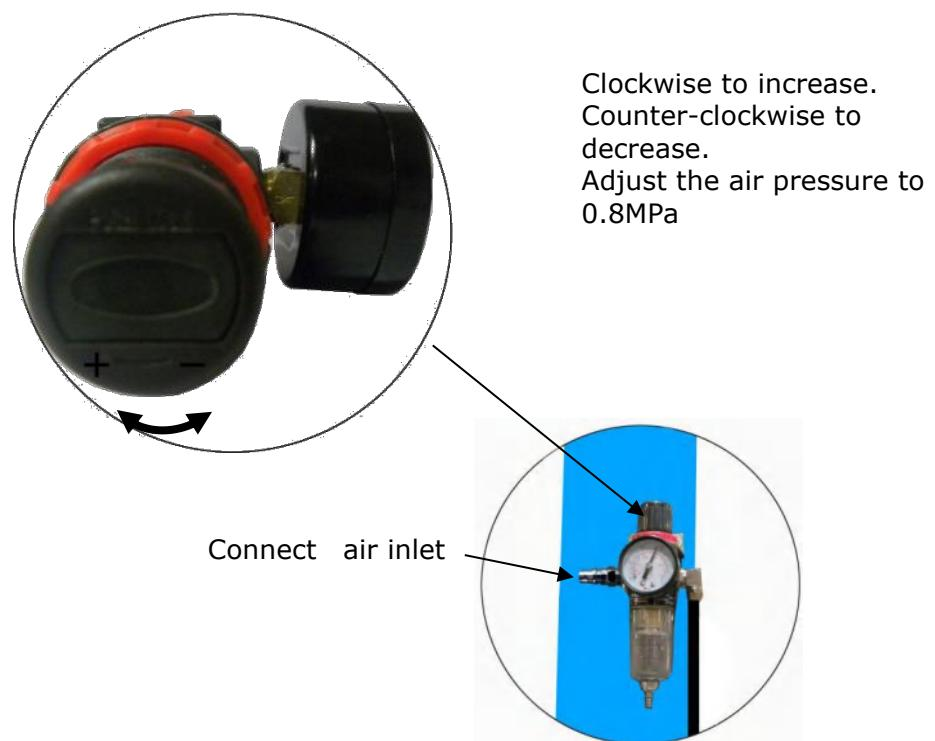

Fig. 33
6. Connect air inlet , adjust the air pressure of Oil-water separator to 0.8MPa (**See Fig. 33**).